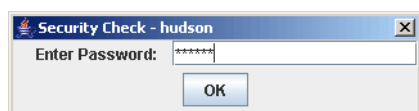

Figure 21-33 SANsurfer - Security check
11. Enter the SANsurfer password and click **OK**. The default password of SANsurfer is config. See Figure 21-33.